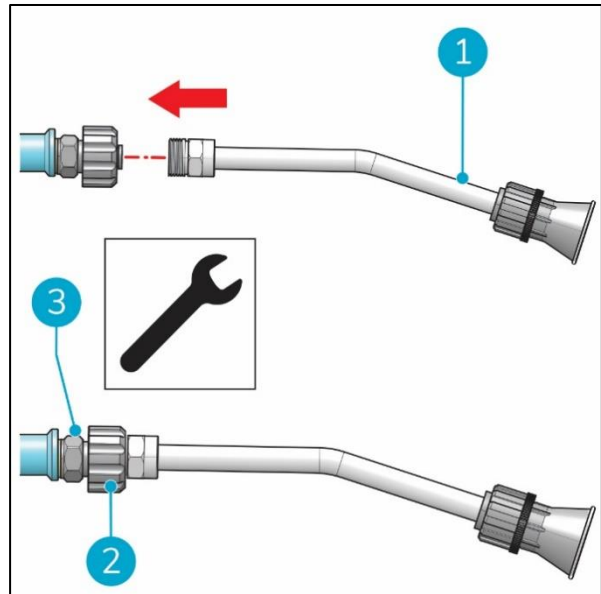

Figure 12
8. Connect the bend tube with the adaptor (Figure 12, pos 1).
9. Turn the screw joint (Figure 12, pos 2) clockwise to tighten it whilst holding the bend tube.
10. Turn the nut clockwise with a 22 mm wrench (Figure 12, pos 3) to tighten it.